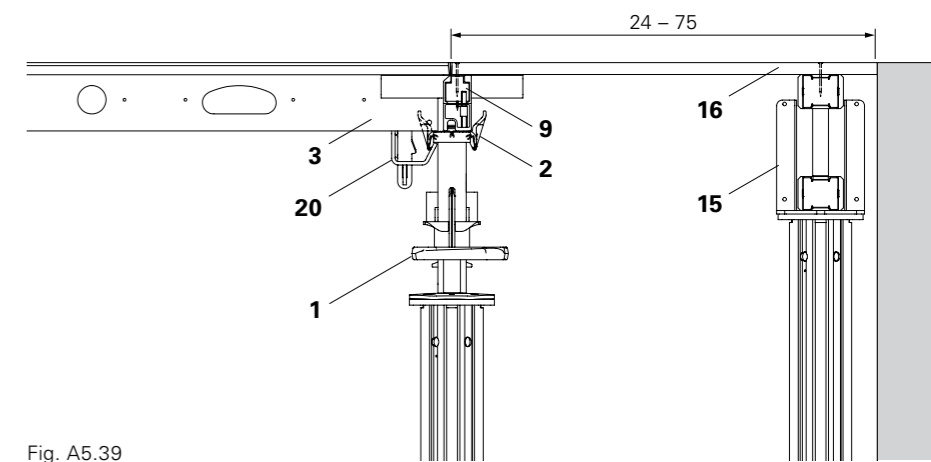

Fig. A5.39
1. Mount the Panel SDP (3) in the Main Beam (2).
2. Insert Edge Beam SRT-2 (9) in the Main Beam.
3. Position additional prop with Crosshead (15) and formwork girder.
4. Install formlining (16) and secure with nails. (Fig. A5.39 + A5.40)